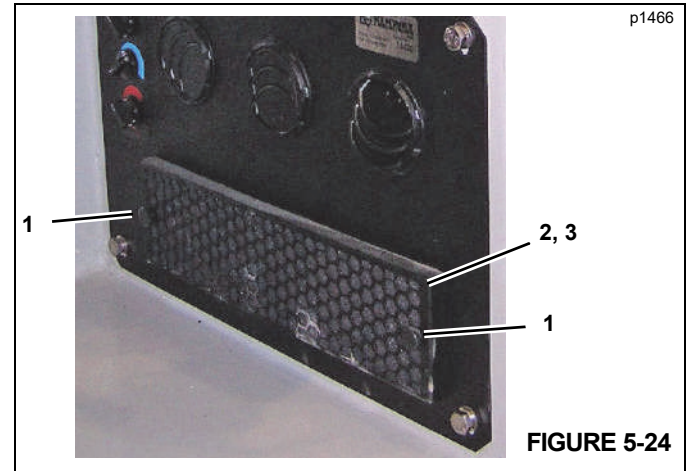

FIGURE 5-24
1. Remove the thumb screws (1, Figure 5-24).
2. Remove the access cover (2).
3. Remove the filter (3) and clean it with compressed air or with mild soap and water.